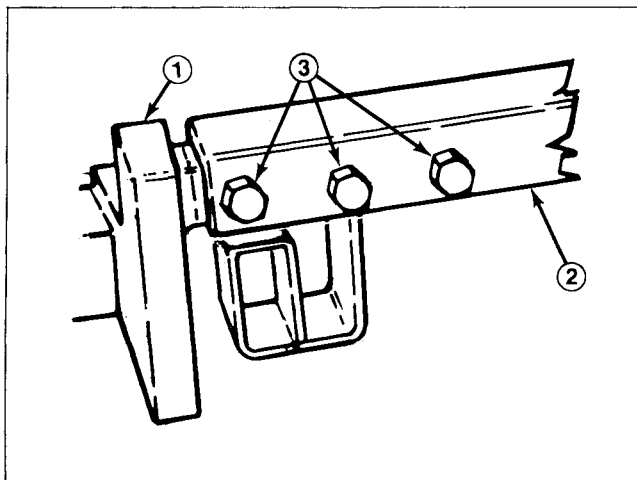

Figure 2
2. Slide carrier frame onto lift arms aligning mounting holes. Secure each side of carrier frame to lift arms with (3) 1/2 - 13 x 1-1/2" lg. capscrews. Torque capscrews to 70-80 ft-lb. (Fig. 2).